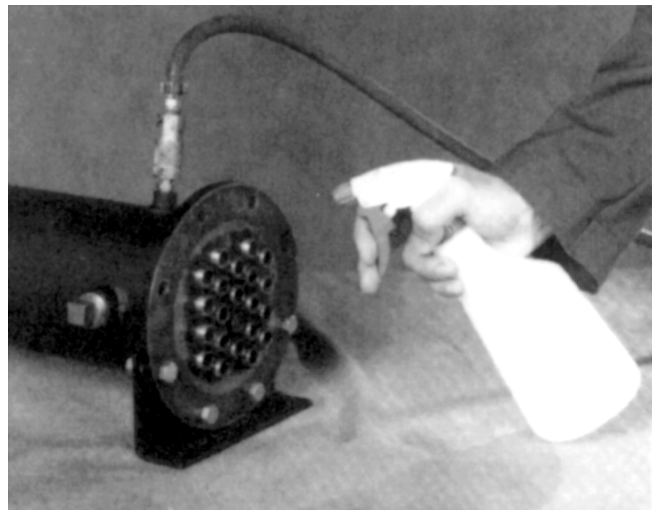

Figure 8
3. To test for leaks around the seals, apply 50 PSI to the oil side fittings for 15 minutes. Submerge the transmission cooler in water (or spray ends with soapy water) and inspect for bubbles, which may indicate leaks (see Fig. 8).